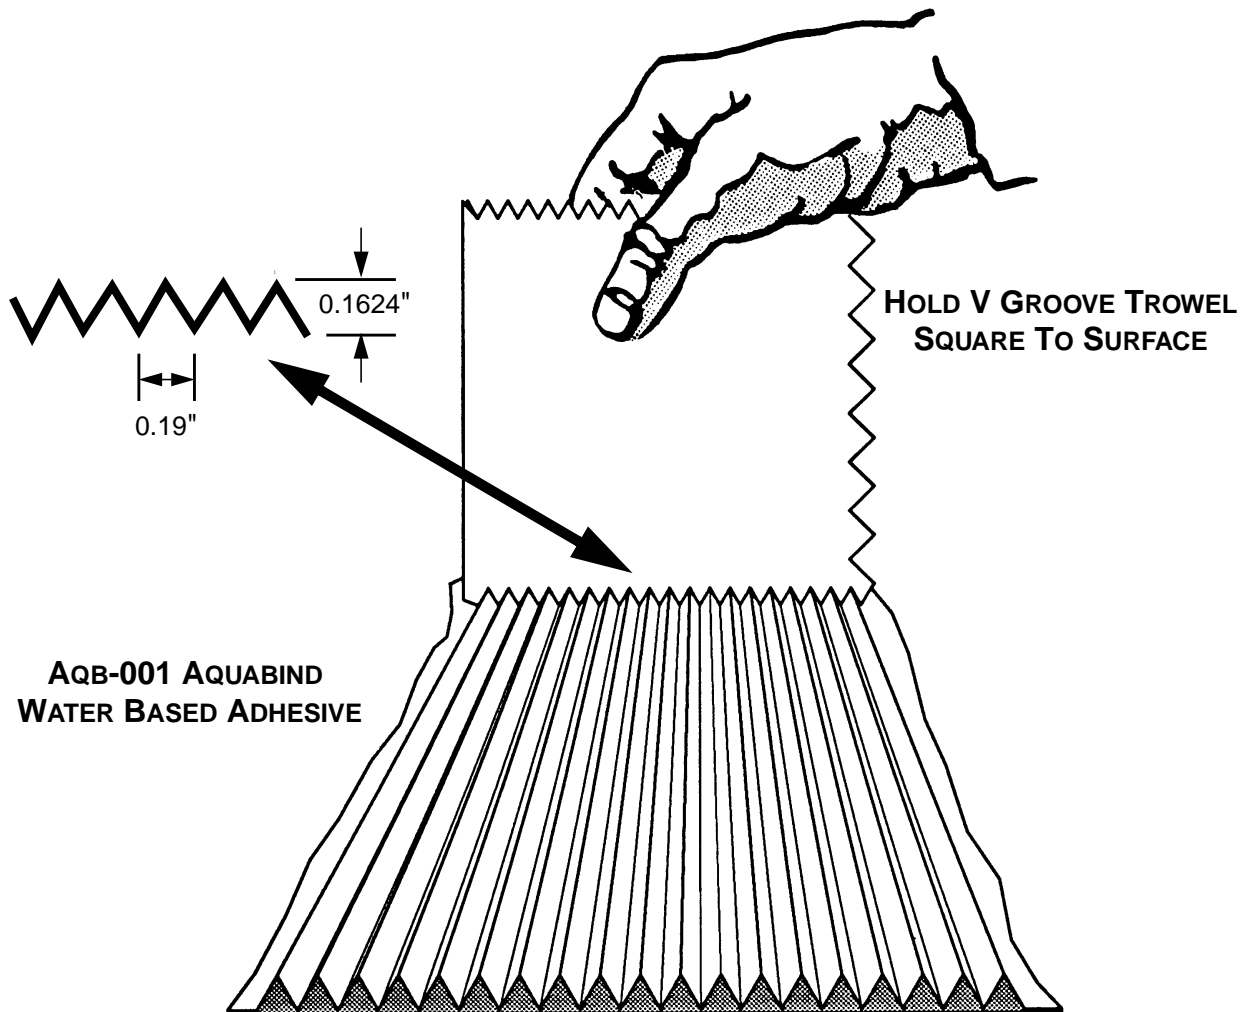

FIGURE 1 - APPLICATION OF ADHESIVE
- 4.2.2 V-grooved trowel as shown in Figure 1.
- Step 1. Apply 50 to 70 grams of adhesive for every square foot of bond area to the bond surface of both the panel and the fabric. Spread the adhesive uniformly over the bond area of both the panel and the fabric using a V-grooved trowel as shown Figure 1.